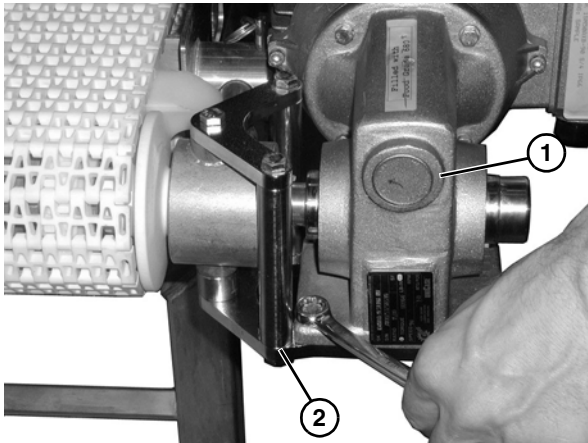

Figure 23
5. Remove the bolts that connect the gearmotor (Figure 23, item 1) to the gearhead mounting posts (Figure 23, item 2).